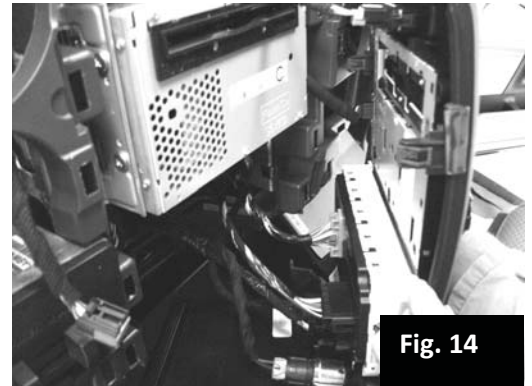

Fig. 14
22. Pull loose the radio bezel and disconnect wiring. Fig. 14